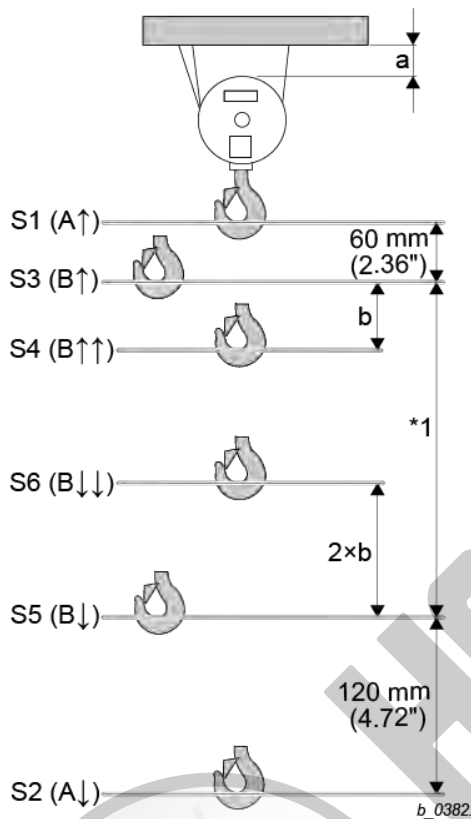

Fig. 82
1. Lower bottom hook block to 0.39 in. above desired hook position, if necessary turn setscrew (S5) to the left beforehand. Observe minimum clearance, see Fig. 82.
1. Lift bottom hook block by 2xb, see Fig. 82, Tab. 35+Tab. 36.